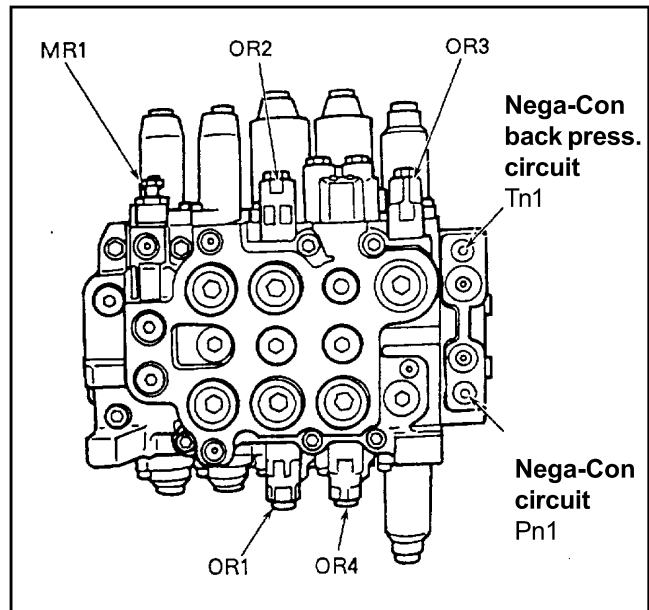

Figure 14.27 *
3. Locate OR3 on Main Control Valve, loosen locknut and adjust OR3 to test bench pressure. See Figure 14.27.
3. Locate OR4 on Main Control Valve, loosen locknut and adjust OR4 to test bench pressure. See Figure 14.27.
3. Locate OR1 on Main Control Valve, loosen locknut and adjust OR1 to test bench pressure. See Figure 14.27.